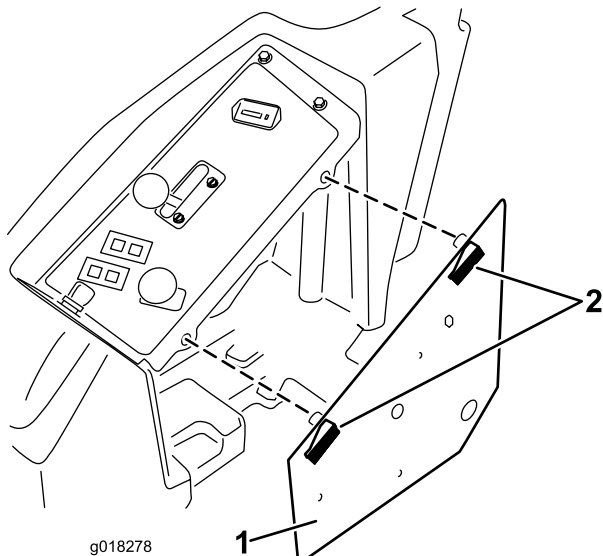

Figure 1
1. Unlatch the control panel cover and move it aside (Figure 1).